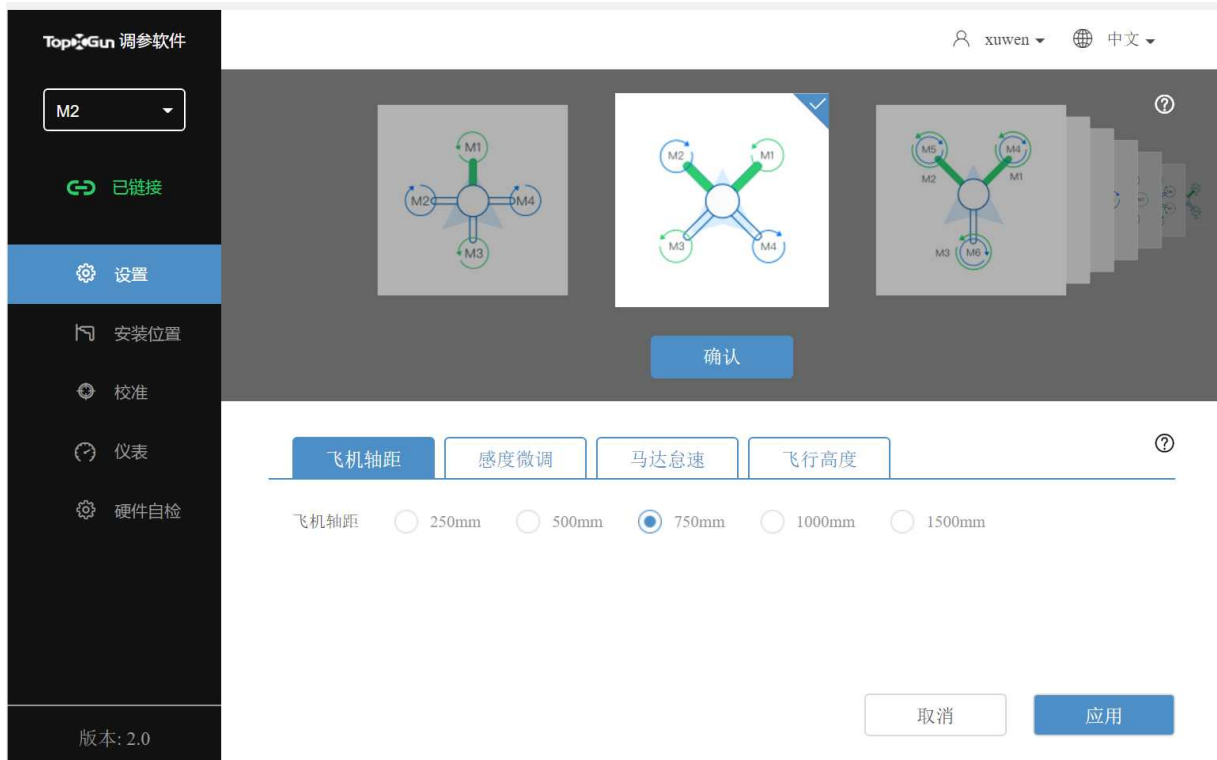

Figure 2-4 Model selection
- Step 3: Select the model setting corresponding to the aircraft, as shown in Figure 2-4.